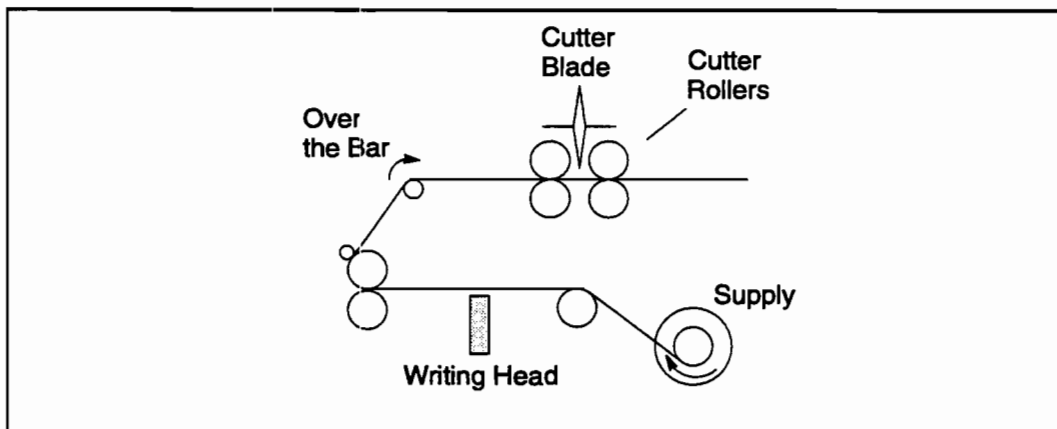
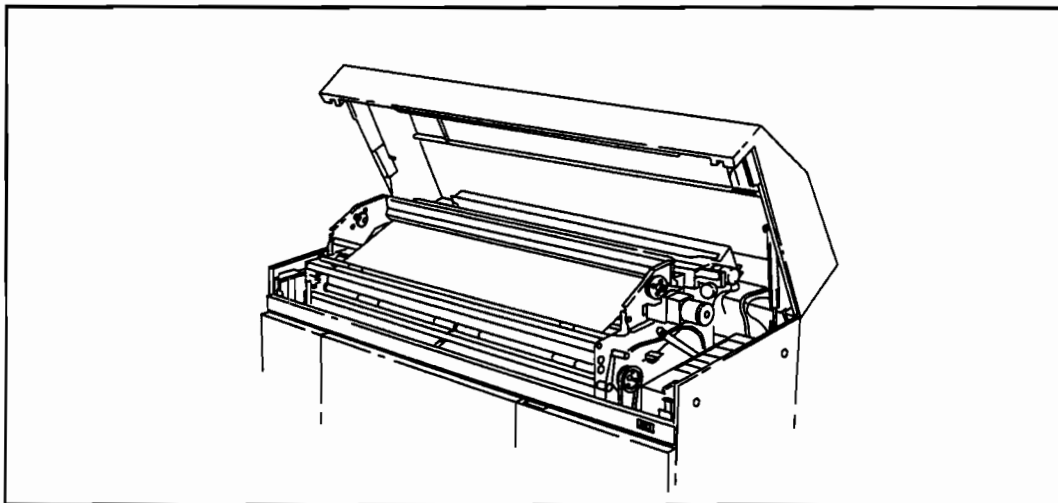

Figure 3-31. Cutter Loading
Figure 3-32. Cutter Operation
3. Route the media over the bar and into the slot at the front of the cutter mechanism. See Figure 3-31 and Figure 3-32.